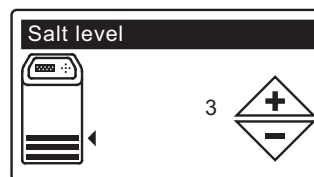

FIG. 22
- 7. SALT LEVEL** Press the UP ▲ or DOWN ▼ buttons to set the salt level (See Figure 22). It should match the lowest number visible on the brinewell above the salt.